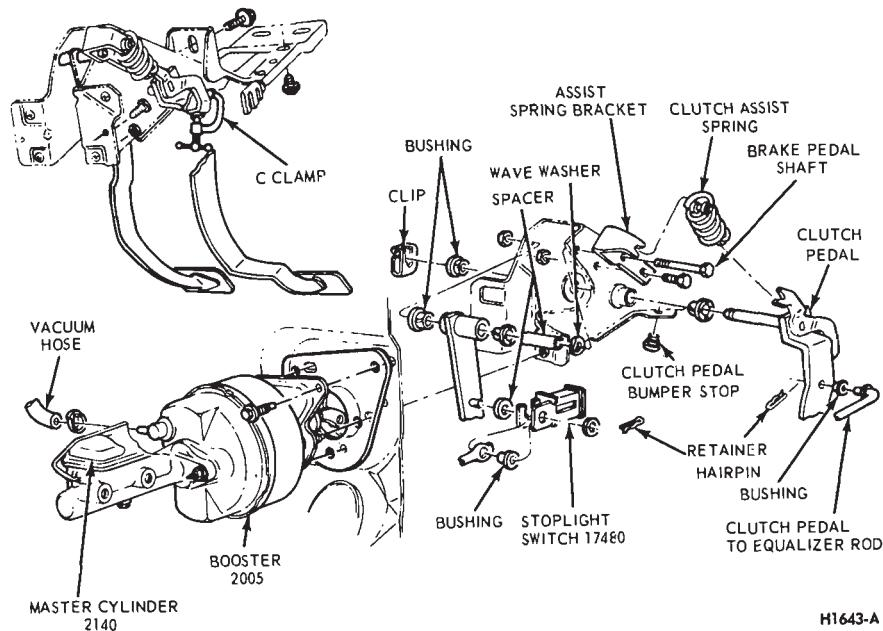

FIG. 15—Master Cylinder Installation—Power Brake—Mustang and Cougar
3. On all vehicles except Mustang and Cougar with power brakes, remove the self-locking pin and washer from the brake pedal shaft, then remove the shaft, the brake pedal assembly and the bushings from the pedal support bracket. On Mustang and Cougar vehicles with power brakes, remove the locknut and bolt from the pedal. Remove the pedal assembly from the support bracket (Fig. 15).